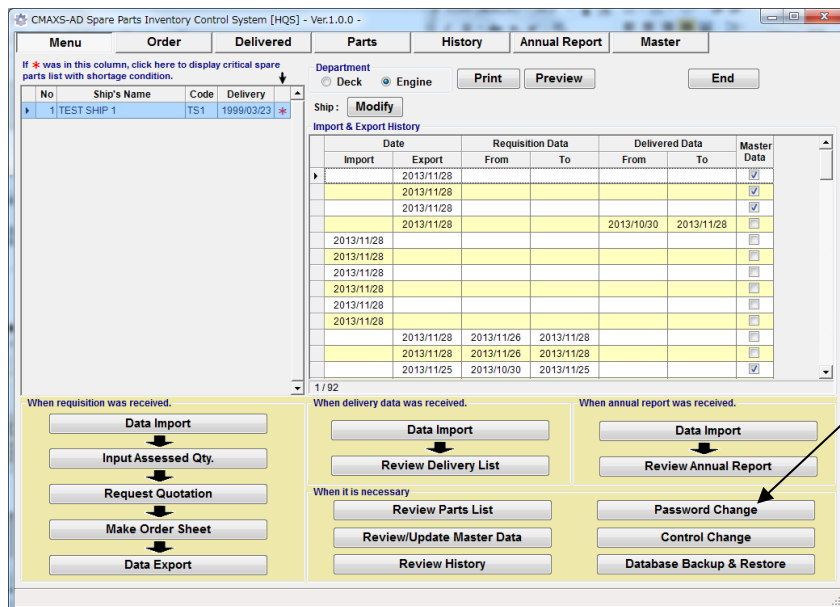

Fig.16-1 Menu Screen
(1) Select [Password Change] on the "Menu Screen" (Fig.16-1).